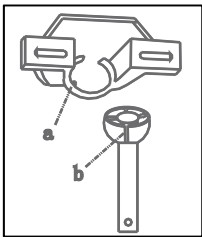

Fig. 7b
- Rotate the fan until the notch (b) on the aluminum ball fits against the ridge (a) on the mounting bracket (Fig. 7b).